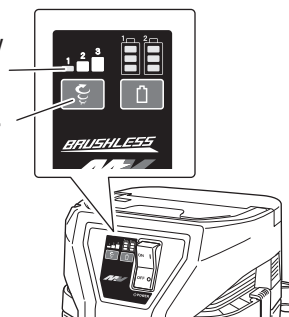

Fig. 10
5. Switch operation (see Fig. 10)